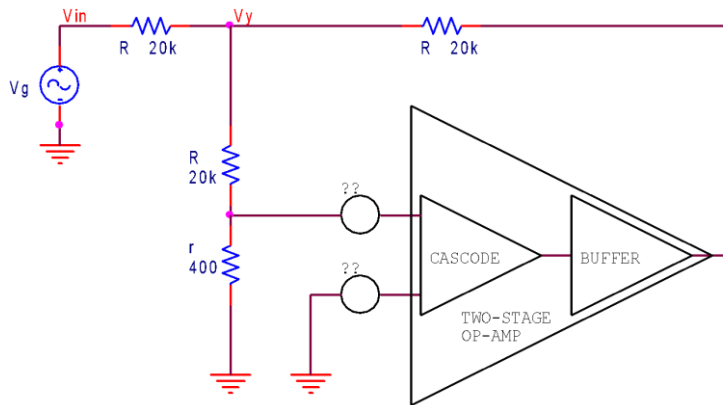

Figure 12
- 8.2. The circuit above (Figure 12) should be very familiar. Write down the formula for the open loop gain as a function of v_{in} , v_y .